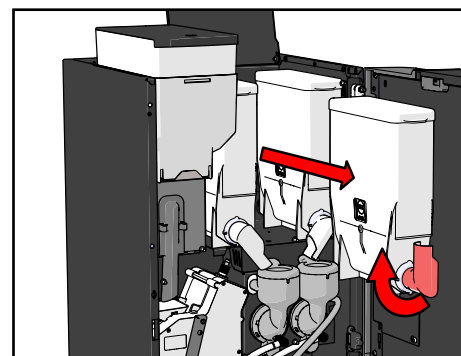

Figure 8.
3. Take the instant canisters out of the machine with the outlets turned upwards (see Figure 8).